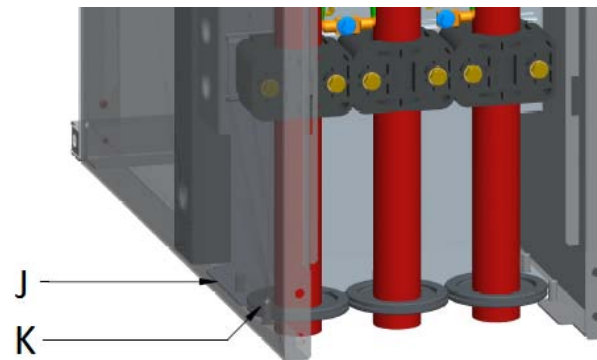

Figure 27: Positioning of the rear bottom panels
- Install the bottom plate (Figure 27 J) right in the cable compartment and position the transit rubbers (Figure 27 K) in such a way that the bottom panels are fixed into place.